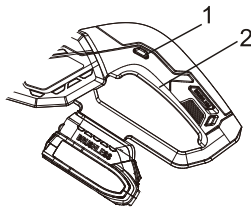

Fig. 11
1. Press the lock-off switch (1) (Fig. 11).
2. While continuing to press the lock-off switch, squeeze the trigger switch (2).